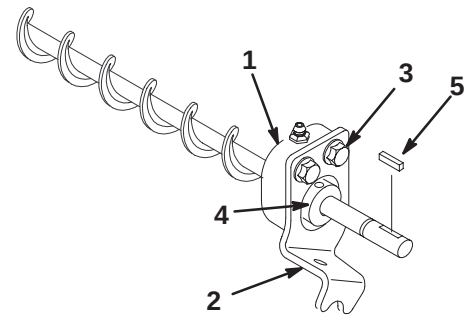

Figure 9
- Loosen (2) bolts securing each roller brush bearing housing to brush brackets (1/2 wrench) (Fig. 9).
- Using a 1/8" Allen wrench, loosen set screws securing collars to each end of roller brush shaft. Remove tape holding square key on shaft (Fig. 9).